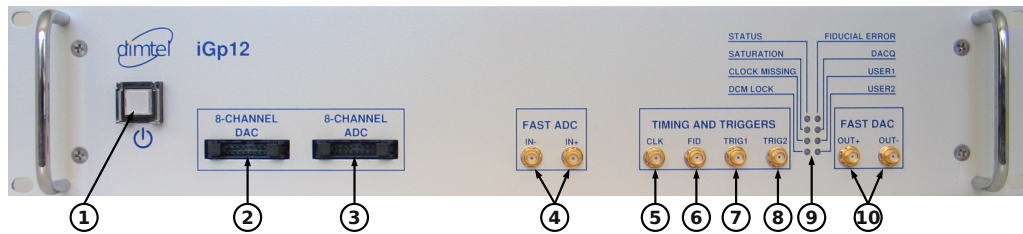

Figure 3: Front panel features
1. Connect RF clock at  $-3$  dBm nominal level (Fig. 3, item 5);
2. Connect single-ended high-speed ADC input signal to **Ain+** (Fig. 3, item 4). The FS swing of this signal should be 780 mV peak-to-peak;
3. Connect a  $50\ \Omega$  terminator to **Ain-** (Fig. 3, item 4);
4. Connect high-speed DAC output(s) (Fig. 3, item 10) to the appropriate back-end unit;
8. Push the power button (Fig 3, item 1) to turn on the system;
10. Push the power button (Fig 3, item 1) to turn the system off;